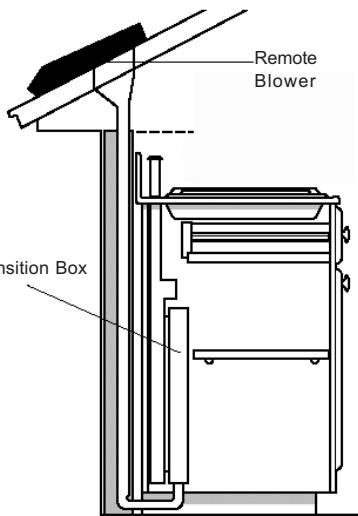

Fig. 3
F. Investigate potential ductwork routes and choose the shortest possible route from the unit to an outside wall or to the roof via an inside wall and attic. For guidance, typical ducting installations are shown in figures 3 through 6. Installation in island locations will require under floor ducting. Peninsula locations usually require ducting laterally through cabinets or under cabinet toespaces. Consider potential interferences to ductwork from building framing (floor joists, wall studs, etc.) and utilities (electrical wiring, water, gas, or sewer lines, etc).
### Figures 3 through 6 are examples of possible ducting